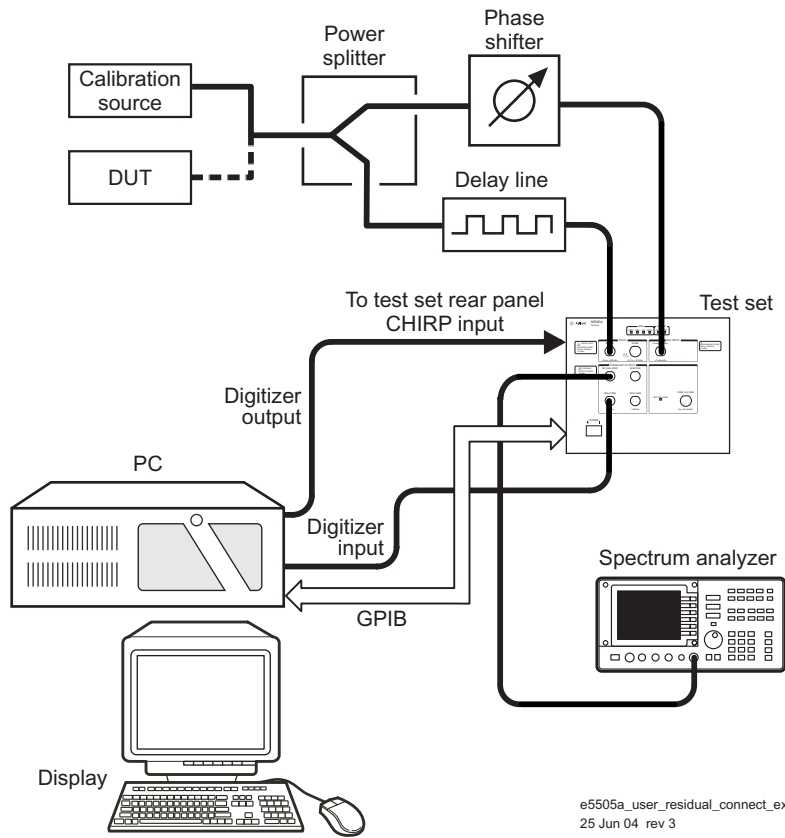
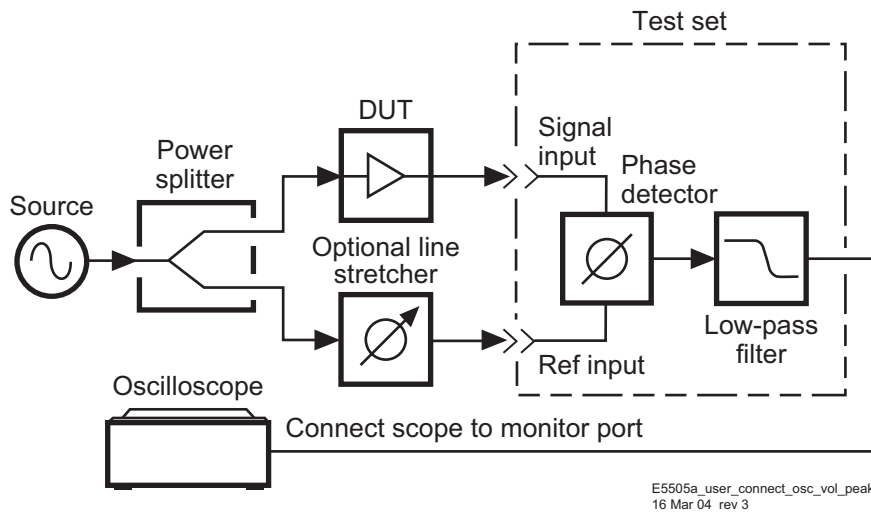

Figure 173 Residual connect diagram example
Figure 174 Connection to optional oscilloscope for determining voltage peaks
- 1 Using Figure 173 and Figure 174 on page 238 as guides, connect the circuit and tighten all connections.
Connecting an oscilloscope to the monitor port is recommended because the signal can then be viewed to give visual confidence in the signal being measured. See Figure 173 and Figure 174 on page 238.